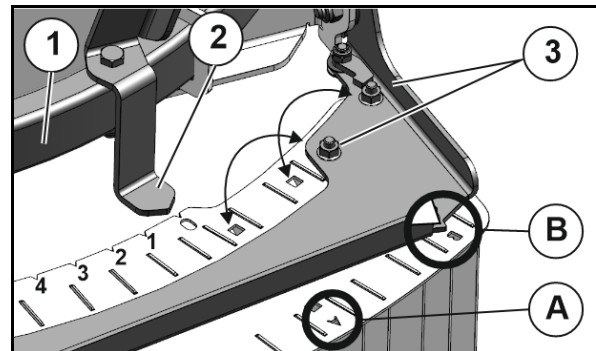

Fig. 60
2. Push the multi-disc block on the guide bar (Fig. 60/1) until the pointer (Fig. 60/2) is positioned at the value to be set from the setting chart.